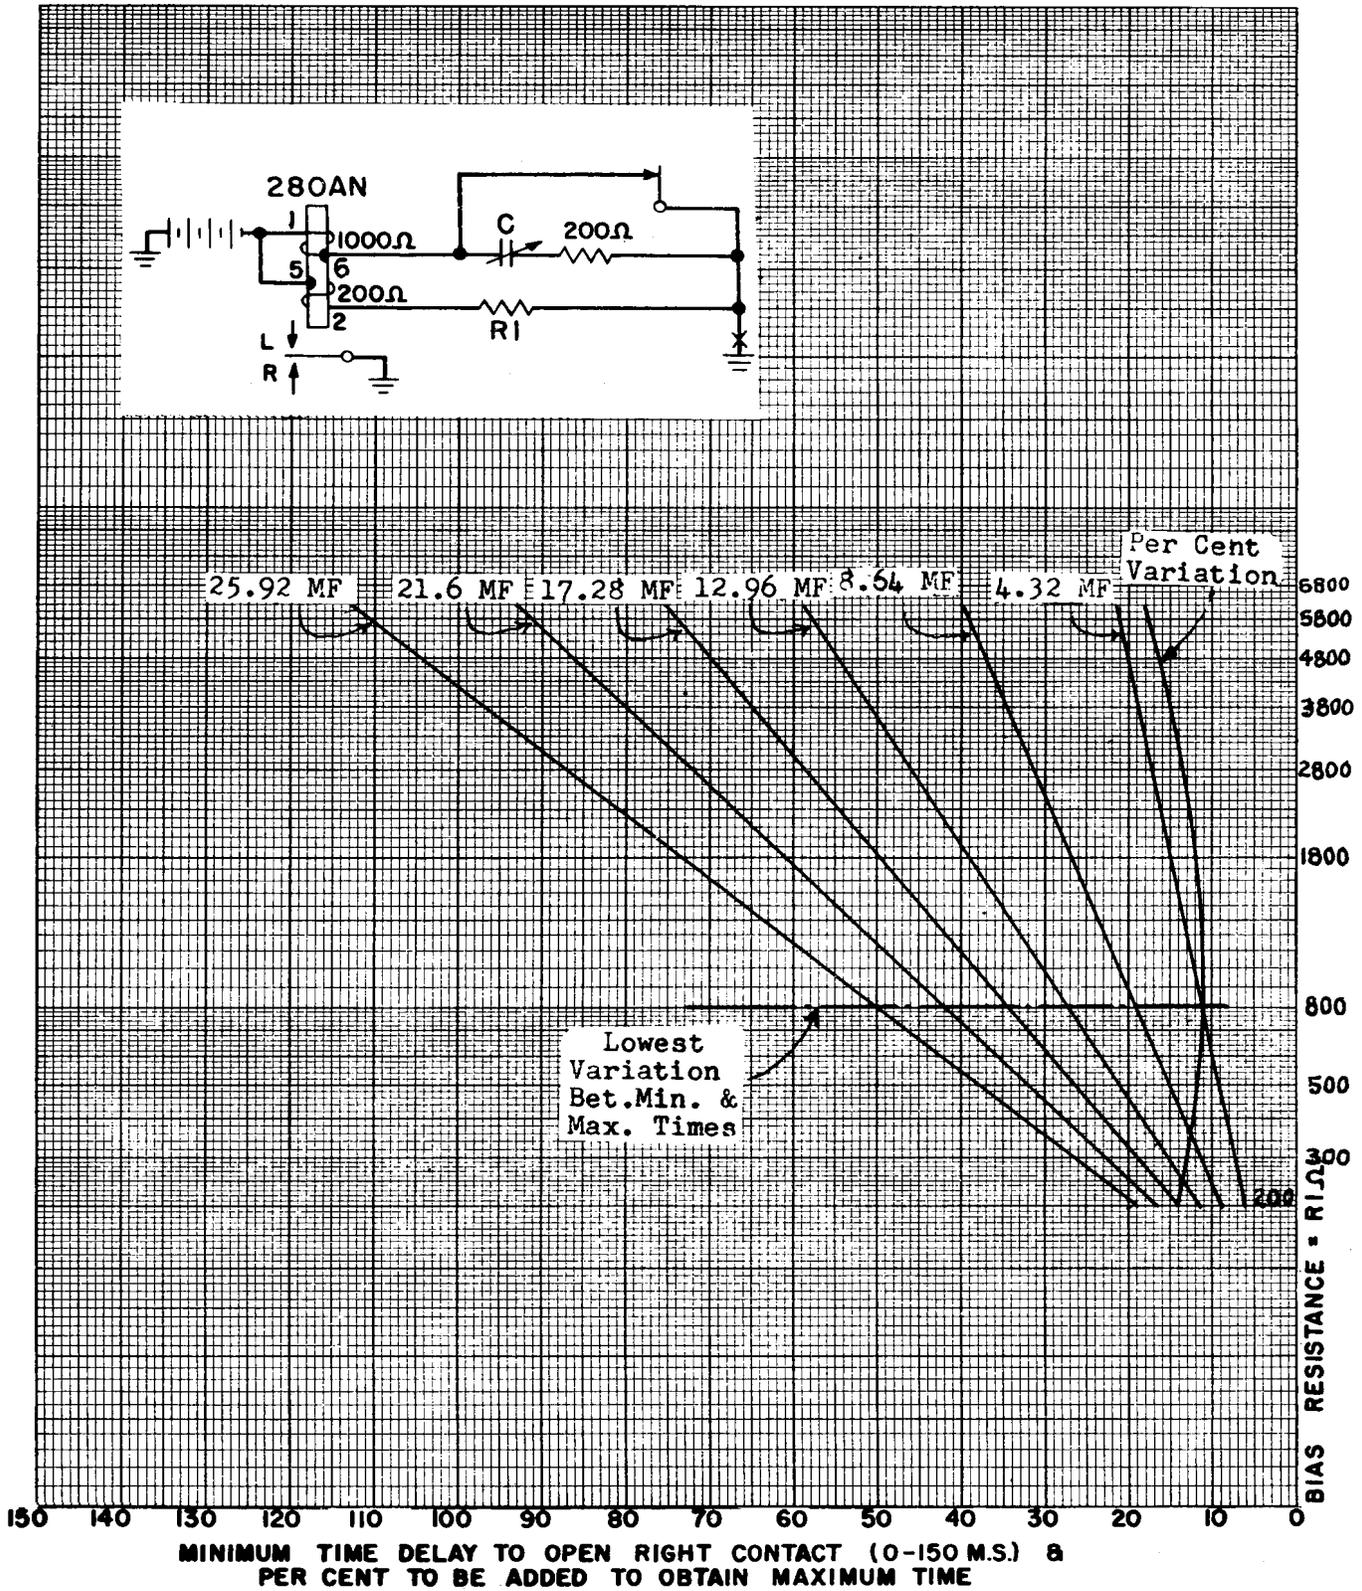

Fig. 2 - Time Constants For 280AN Polar Relay Time Delay When R2 = 0
From Fig. 2 find that when $t = 0.010$ sec.
- (e) The 280AN relay (Fig. 2) should be used only for very short time delays demanding small time variations. For longer time delays it requires more than twice as much capacitance as the 280A relay which was especially designed for this type of circuit. The energization time and the frequency of operation per busy hour for this relay should be small, otherwise, time corrections for heating must be considered.